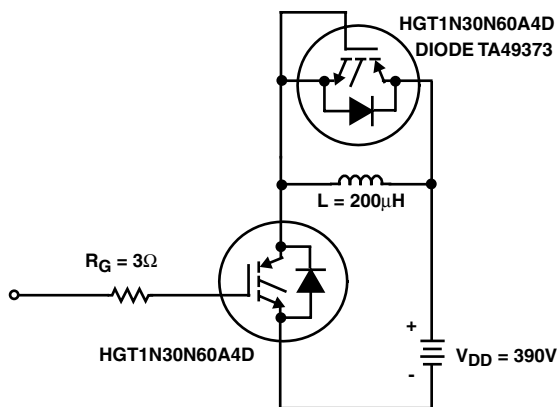

FIGURE 24. INDUCTIVE SWITCHING TEST CIRCUIT
- Values for two Turn-On loss conditions are shown for the convenience of the circuit designer. E_{ON1} is the turn-on loss of the IGBT only. E_{ON2} is the turn-on loss when a typical diode is used in the test circuit and the diode is at the same T_J as the IGBT. The diode type is specified in Figure 24.